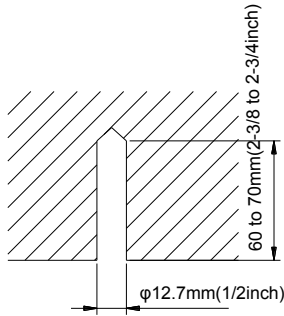

Fig. 4.5
- (2). Install the bolts to the ceiling at a place strong enough to hang the unit. Mark the bolt positions from the installation template. With a concrete drill, drill for 12.7 mm (1/2") diameter holes. (Fig. 4.5)